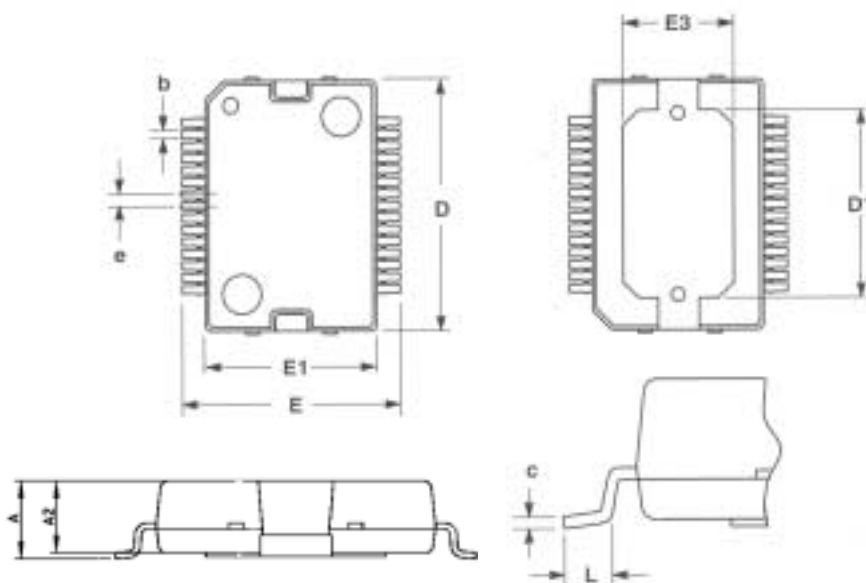

Figure 2. 30ld HSOP Case Outline Drawing
Three HSOP packages are available, all with the same body size of 15.90mm (L) x 11.00mm (W) but with different lead counts and pitch. There are 20ld, 30ld and 44ld HSOP packages with lead pitch of 1.27mm, 0.80mm, and 0.65mm, respectively. A few nominal dimensions for all three HSOP packages are provided in Figure 2. and Table 1.
Motorola’s HSOP package is a non-JEDEC package. The exposed pad region, referenced as dimensions E3 and D1 in Figure 2., was widened for better thermal resistance performance compared to the JEDEC MO-166 package [See reference (1.)].